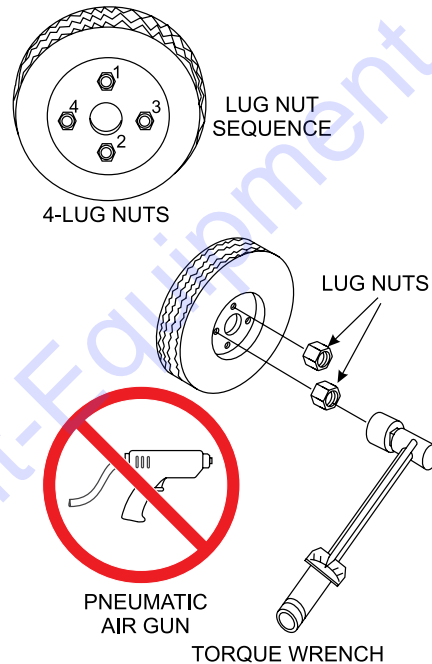

Figure 51. Lug Nut Torque Sequence
2. Torque all lug nuts (Figure 51) in sequence. **DO NOT** torque the wheel lug nuts all the way down. Tighten each lug nut in 3 separate passes as defined by Table 7.